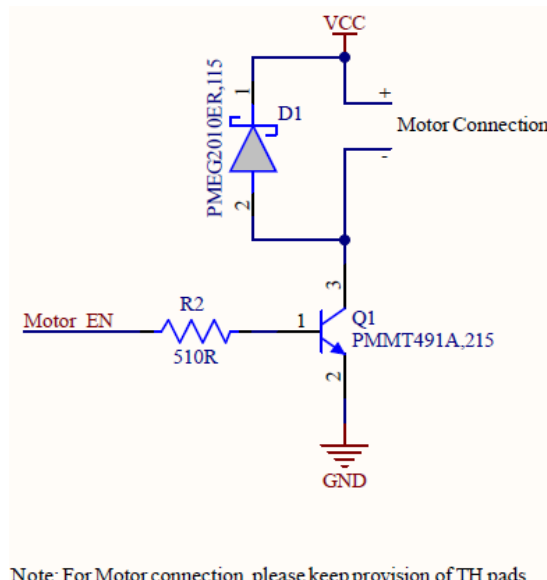

Figure 3. Motor Drive Section Schematic
- Figure 3. Motor Drive Section Schematic 4